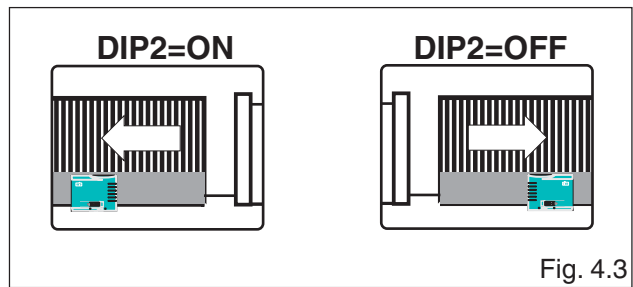

Fig. 4.3
- set correct opening direction by means of DIP2 as shown in Fig. 4.3.